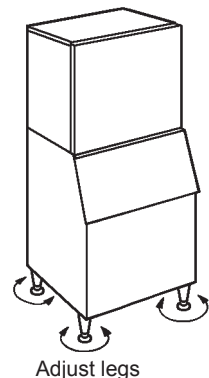

Fig. 7
- 9) Adjust the four legs on the bottom (adjustable from 0 to 25.4 mm) to have the icemaker perfectly horizontal. Use the spirit level. See Fig. 7.